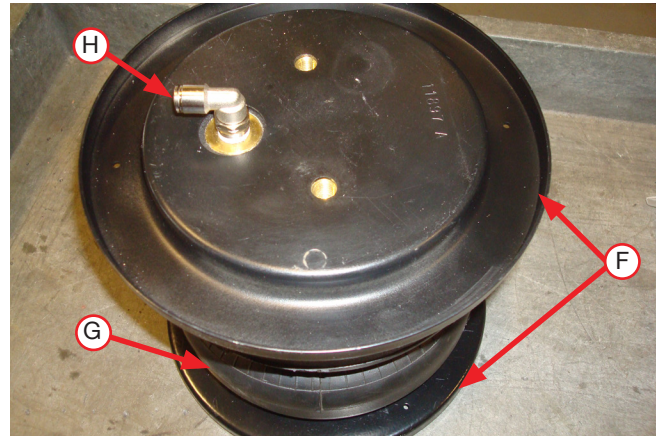

Fig. 5
1. Place the roll plates (F) on the air springs (G). Install the 90 degree swivel elbow fittings (H) onto the air springs (Fig. 5). Tighten the air fittings finger-tight plus 1 1/2 turns.